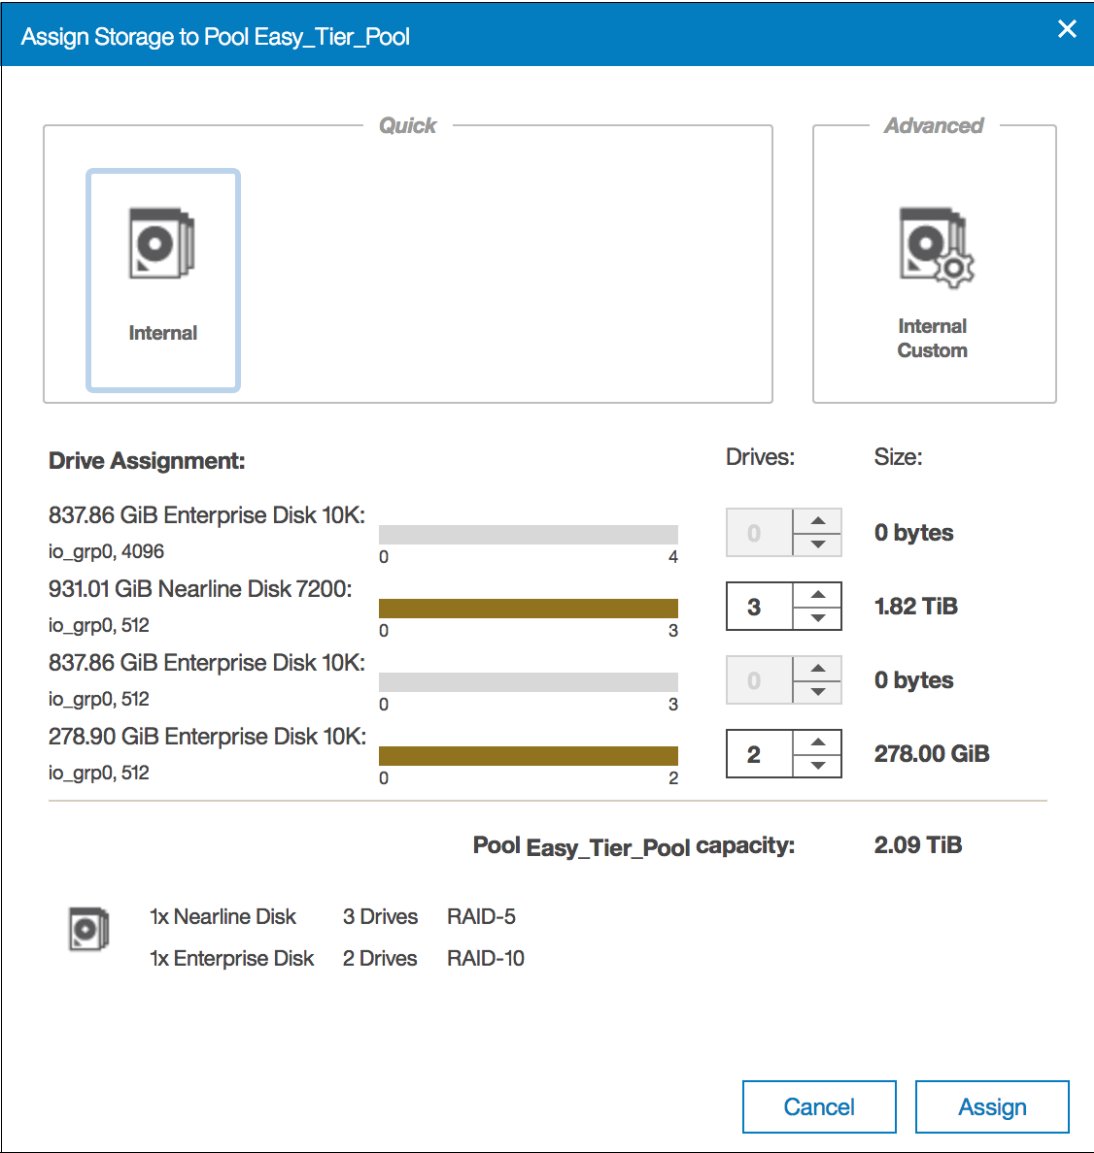

Figure 9-12 Add Storage - Quick Internal panel
6. The Assign Storage to Pool panel offers two options to configure the storage into the pool: Quick Internal or Advanced Internal Custom. Figure 9-12 shows the Quick Internal panel.